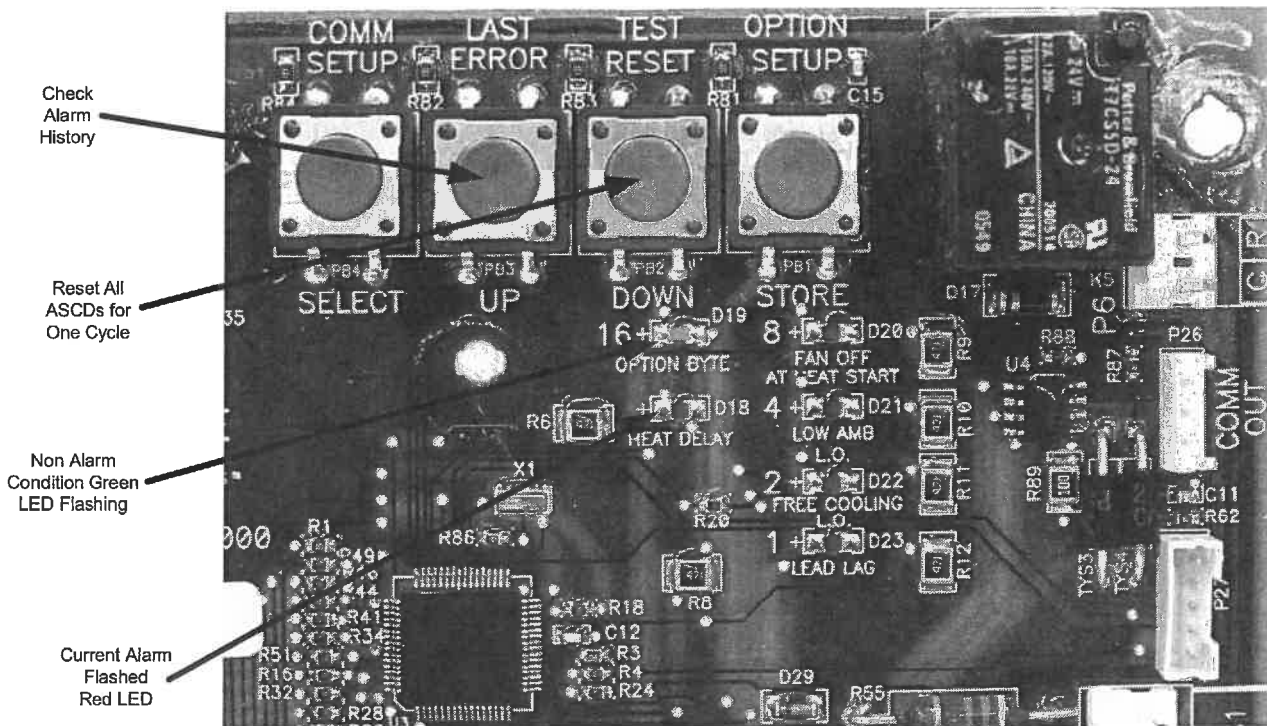

FIGURE 1- UNIT CONTROL BOARD
Alarm condition codes are flashed on the UCB lower left Red LED, See Figure 1. While the alarm code is being flashed, it will also be shown by the other LEDs: lit continuously while the alarm is being flashed. The total of the continuously lit
Alarm condition codes are flashed on the UCB lower left Red LED, See Figure 1. While the alarm code is being flashed, it will also be shown by the other LEDs: lit continuously while the alarm is being flashed. The total of the continuously lit LEDs equates to the number of flashes, and is shown in the table. Pressing and releasing the LAST ERROR button on the UCB can check the alarm history. The UCB will cycle through the last five (5) alarms, most recent to oldest, separating each alarm flash code by approximately 2 seconds. In all cases, a flashing Green LED will be used to indicate non-alarm condition.